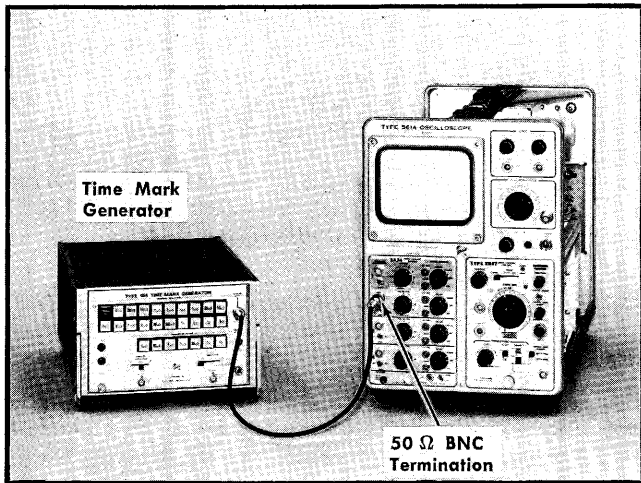
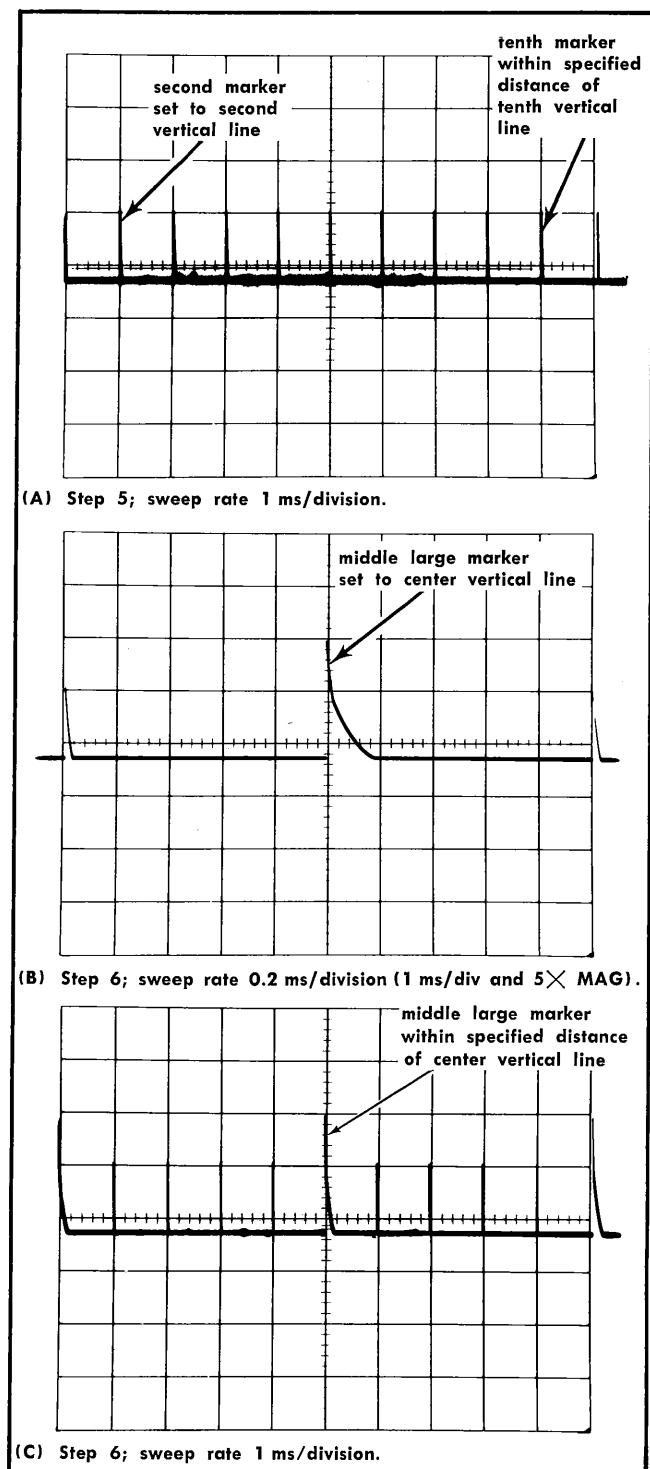
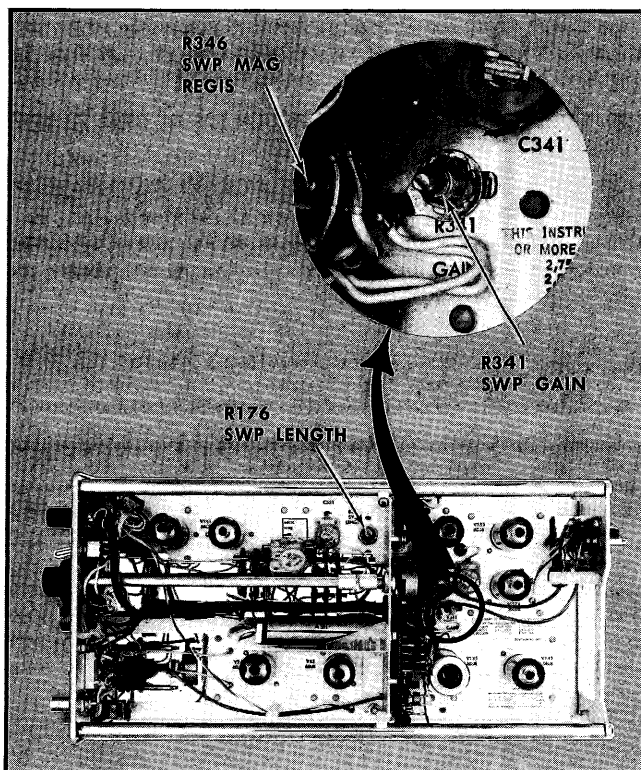

Fig. 5-22. Equipment arrangement for steps 4 through 12.
Fig. 5-24. Sweep timing waveform. Vertical sensitivity - 1 volt/division.
Fig. 5-25. Adjustment locations for steps 5, 6 and 7; 2B67 - right side.
a. The equipment arrangement is shown in Fig. 5-22. The preliminary control setup applies, except that the 2B67 TIME/DIV control is at 1 ms, the (TRIGGERING) SLOPE is at +, SOURCE is at INT, and the LEVEL control is set for a triggered display. 1 ms and .1 ms markers from the Time Mark Generator are displayed on the 3A74 Channel 3 trace.
c. Check that the 2B67 TIME/DIV VARIABLE control is at CAL and then adjust the POSITION control as necessary to display the second marker from the left exactly on the second vertical graticule line from the left. See Fig. 5-24 (A).
d. CHECK—Basic Unmagnified timing accuracy. The 10th marker should be displayed within ±0.24 division of the 10th vertical graticule line, as illustrated in Fig. 5-24 (A).
e. (Calibration Procedure only) ADJUST—Basic un magnified timing accuracy. Adjust SWP GAIN, R341 (Fig. 5-25) as necessary to have the 10th marker fall exactly on the 10th vertical graticule line when the second marker is exactly on the second vertical graticule line. Use Fig. 5-24 (A) as a guide.
a. The equipment arrangement is shown in Fig. 5-22. The preliminary control setup applies, except that the 2B67 TIME/DIV is at 1 ms and the triggering controls are set for a trig-
b. Simultaneously apply 1 ms and 5 ms markers from the Time Mark Generator to the Channel 2 trace. Readjust the 2B67 Triggering controls as necessary to obtain a stable display as in Fig. 5-24 (C).
c. Pull the 2B67 5× MAG out, and check that the (TIME/DIV) VARIABLE is at CAL. Using the POSITION control, set the middle large marker exactly to the center vertical line, as in Fig. 5-24 (B).
e. CHECK—Magnified sweep registration. The middle large marker should be within ± 0.2 division of the center vertical line as in Fig. 5-24 (C).
f. (Calibration Procedure only.) ADJUST—Magnified sweep registration. Adjust SWP MAG REGIS, R346 (Fig. 5-25), as necessary to set the center large marker exactly to the graticule center vertical line as in Fig. 5-24 (C).
a. The equipment arrangement is shown in Fig. 5-22. The preliminary control setup applies, except that the 2B67 TIME/DIV is at 1 ms. A triggered marker display remains from the preceding step, but is not essential to this check/adjustment.
d. (Calibration Procedure only). ADJUST—SWP LENGTH, R176 (Fig. 5-25), as necessary to obtain approximately 10.5 divisions of trace length. (This adjustment is not critical, and is considered satisfactory if the trace length adjustment results in at least 10 divisions.)
a. The equipment arrangement is shown in Fig. 5-22. The preliminary control setup applies, except that the 2B67 TIME/DIV is at 1 ms and the Triggering controls are set for a triggered display. 1 and 5 ms markers from the Time Mark Generator are displayed on the Channel 2 trace.
a. The equipment arrangement is shown in Fig. 5-22. The preliminary control setup applies, except that the 2B67 TIME/
a. The equipment arrangement is shown in Fig. 5-22. The preliminary control setup applies, except that a triggered display of 1 and 5 ms markers is being displayed on the Channel 2 trace.
(1) Set the Time Mark Generator according to Table 5-6.
(2) Set the 2B67 TIME/DIV according to Table 5-6.
(3) Adjust the 2B67 Triggering controls as necessary to obtain a stable display.
(4) Adjust the 2B67 POSITION control so that the specified marker coincides with the second vertical line from the left of the graticule, as shown in Fig. 5-24(A).
(5) Adjust the 3A74 Channel 2 POSITION control as necessary to keep the markers in view, while keeping the baseline below the viewing area of the CRT.
(6) Check that the specified number of markers per division appears, with the marker displacement at the 10th vertical line being within the tolerance given in Table 5-6. See Fig. 5-24(A).
a. The equipment arrangement is shown in Fig. 5-22. The preliminary control setup applies, except that the MARKER OUTPUT of the Time Mark Generator is connected through a coaxial cable and a 50 Ω termination to the 3A74 Channel 2 Input connector. The 3A74 Channel 2 AC-GND-DC control is at DC and the Channel 2 MODE switch is at NORM.